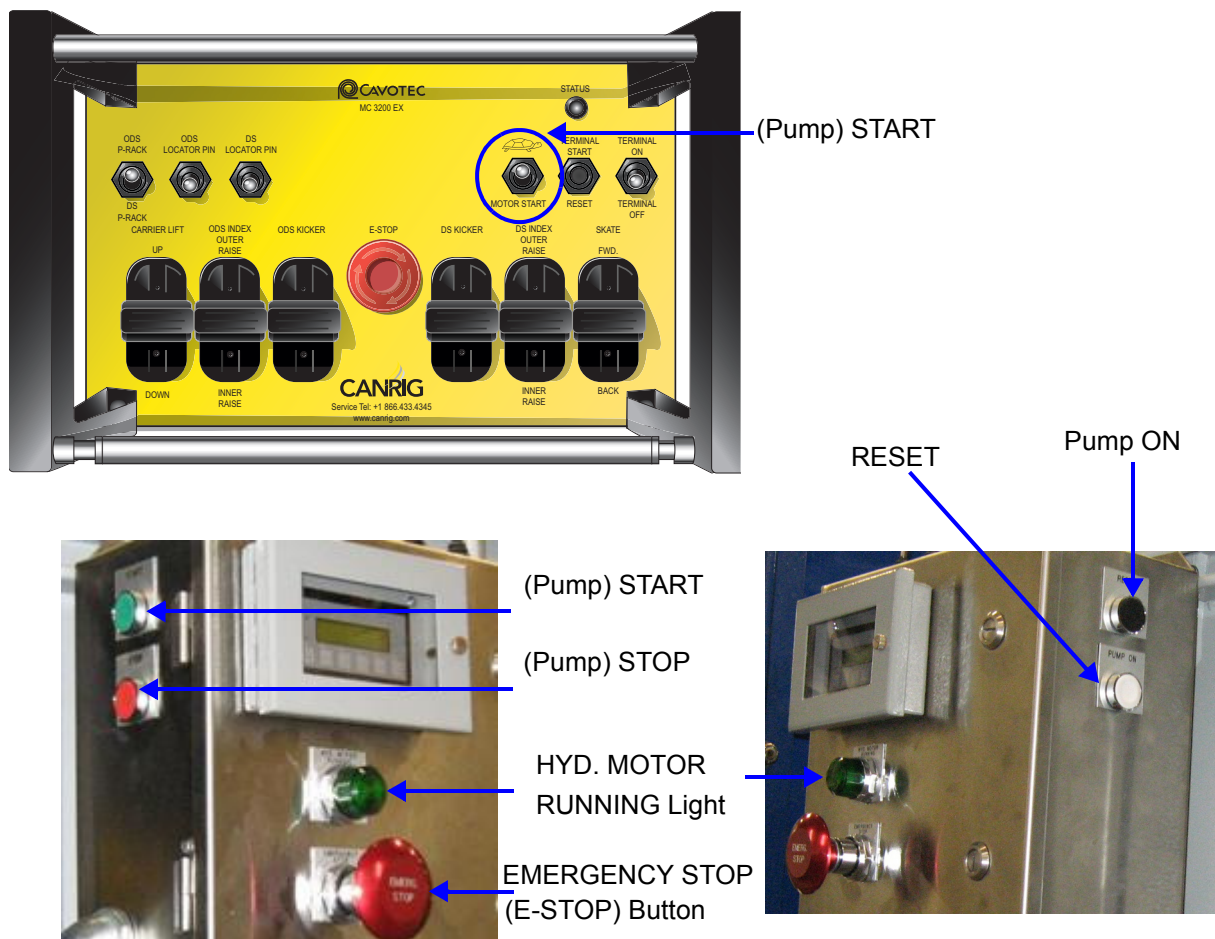

Figure 4: Wireless Terminal and Control Console
1. Start the motor from the wireless terminal or the control panel console (Figure 4).